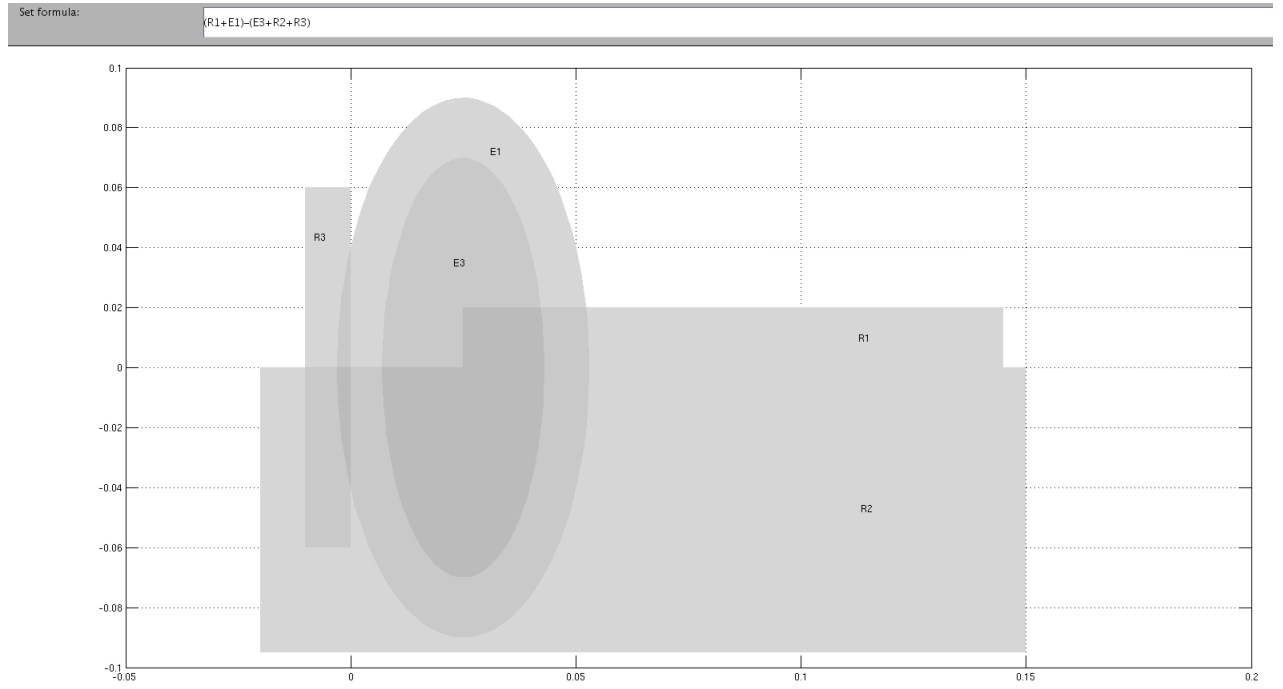
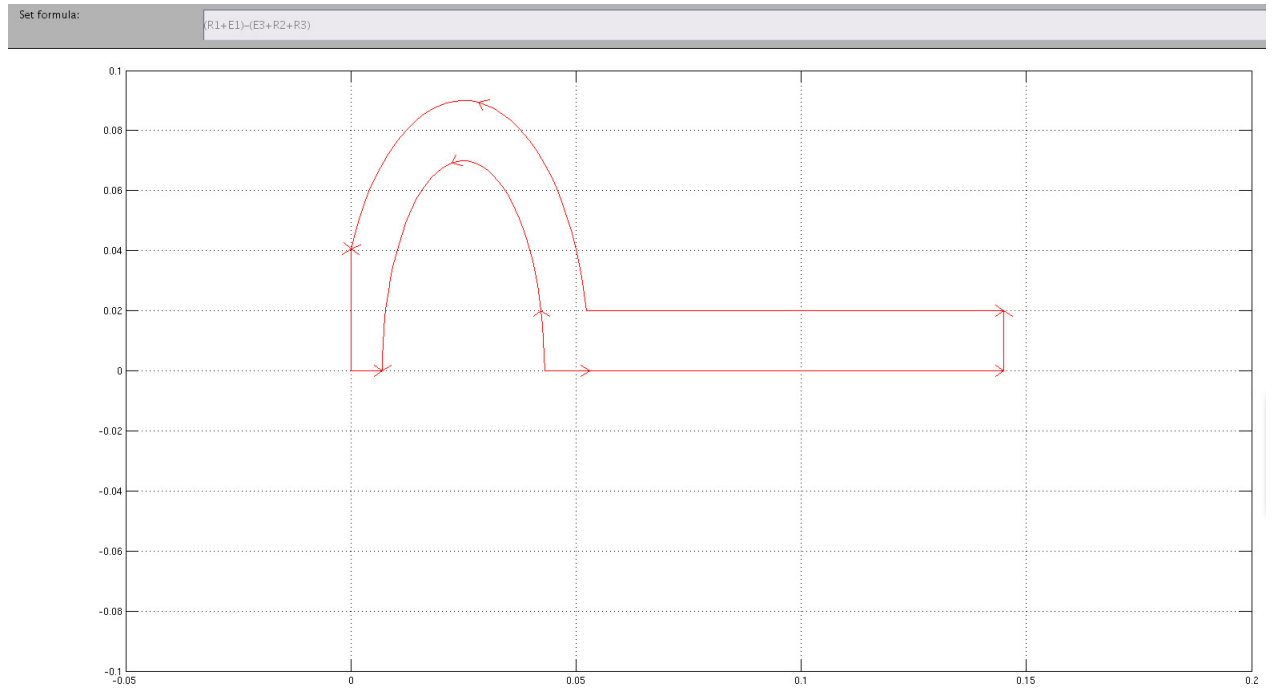

Figure 6: Set of combined shapes.
Figure 7: Resulting geometry seen in boundary mode (ctrl+B) after all subdomains have been removed.
**Determining combined geometry:** In the box below shape-buttons the present features are presented by name (which may be edited using object dialog). The plus sign indicates that geometries are added and minus signs indicate that they are cut out. Because of this the order is important i.e  $\mathbf{R1+E1-E2 \neq R1-E2+E1}$  in general. Below figures showing drawn features and the resulting body after combining by grouping and changing signs in the set formula row (see figure 6, 8 and 7). Note that to see the resulting geometry we need to go to either meshing or boundary view (see toolbar).
To obtain the geometry provided in figure 7 the formula used is given in figure 8 and the object names is seen in figure 6.